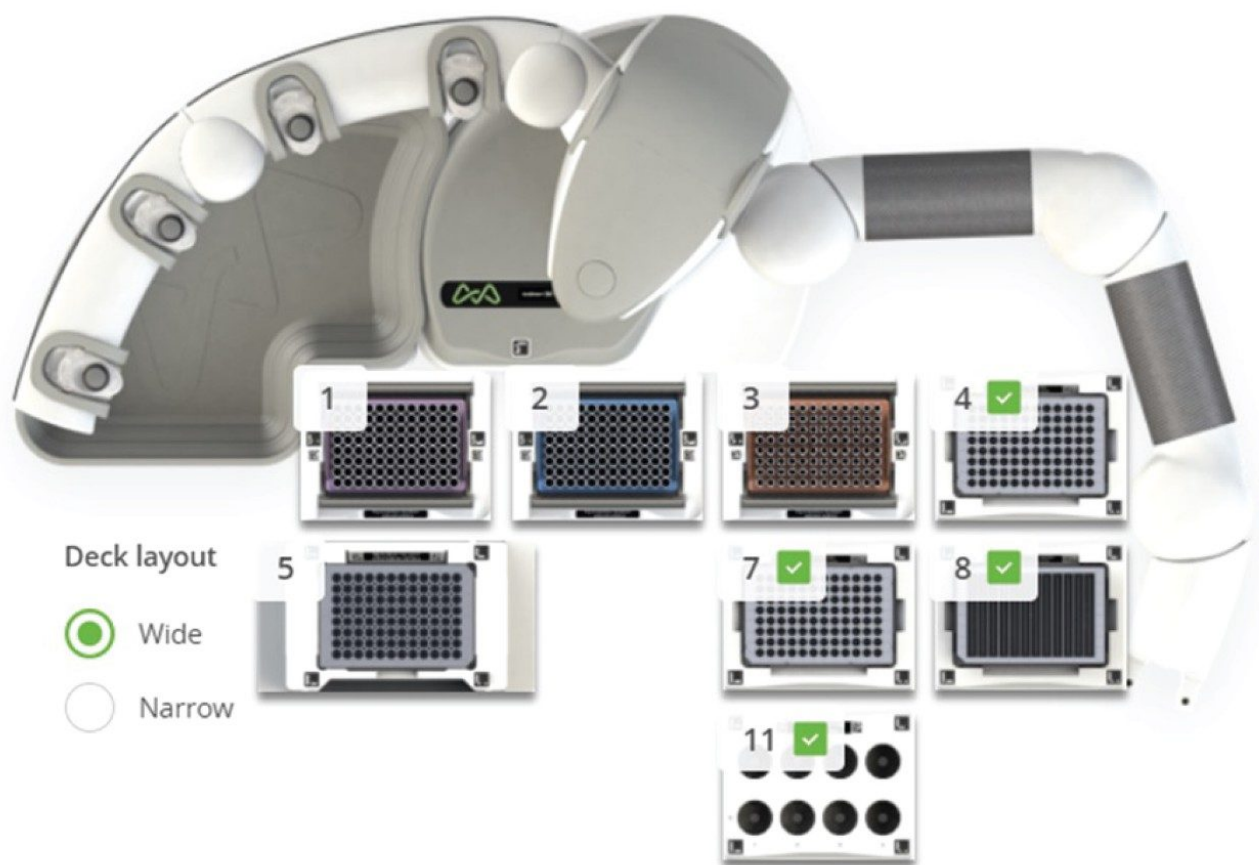

Figure 2. Andrew+ Pipetting Robot workbench layout and configuration for automating the Oasis 2x4 SPE Sorbent Selection Method, as shown in OneLab.
- The Andrew+ Workbench is arranged manually based on guidance provided in OneLab, as shown in Figure 2.